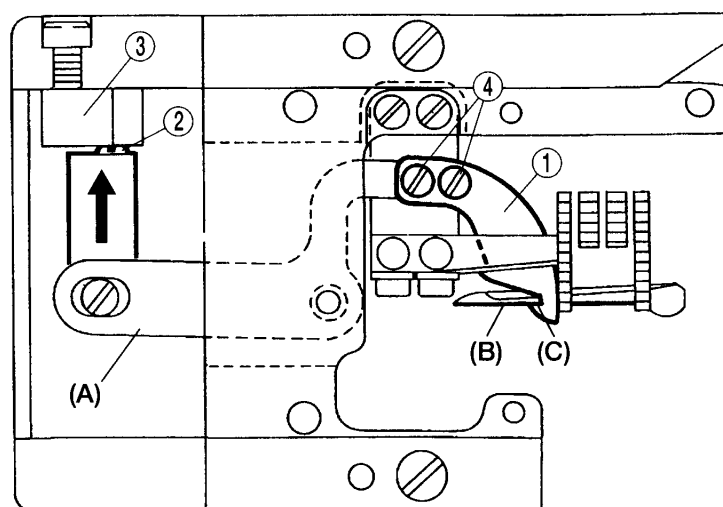

Fig.13
7. Move lower knife holder (A) in the direction of the arrow. Lower knife ① engages with upper knife ⑤ (see the illustration). The relationship between upper knife ⑤, flat spring ⑦ and main feed dog (F) should be adjusted as follows.
Loosen screws ⑥. Align the edges of flat spring ⑦ with line (D) and (E) on upper knife ⑤. Tighten screws ⑥. Loosen screws ⑧ and ⑨. Position upper knife ⑤ so that edge (D) of upper knife ⑤ is parallel with line (G) on the bracket with a clearance of 0.1mm~0.2mm between upper knife ⑤ and main feed dog (F) (see Fig.13).
8. After this adjustment, tighten screws ⑧ temporarily and tighten screws ⑨ (see Fig.13).